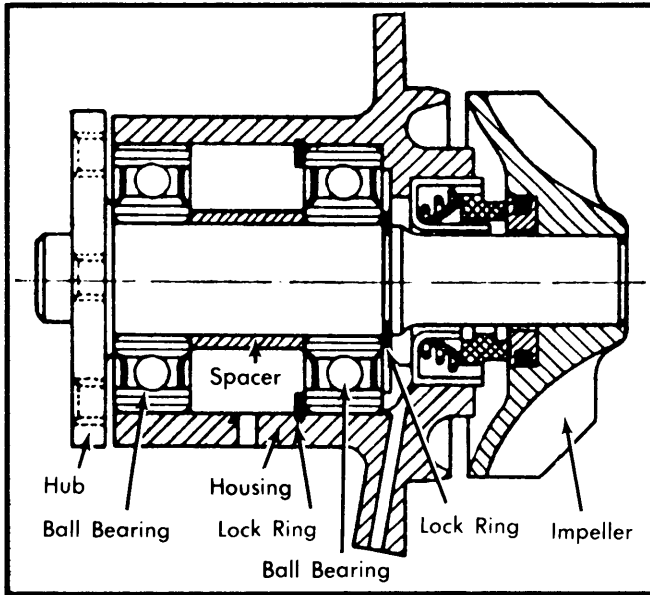

Fig. 15 Sectional View of Water Pump
3) Water pump is a maintenance free type. When installing pump, check hub-to-flange and impeller-to-flange distance. (See Fig. 15).